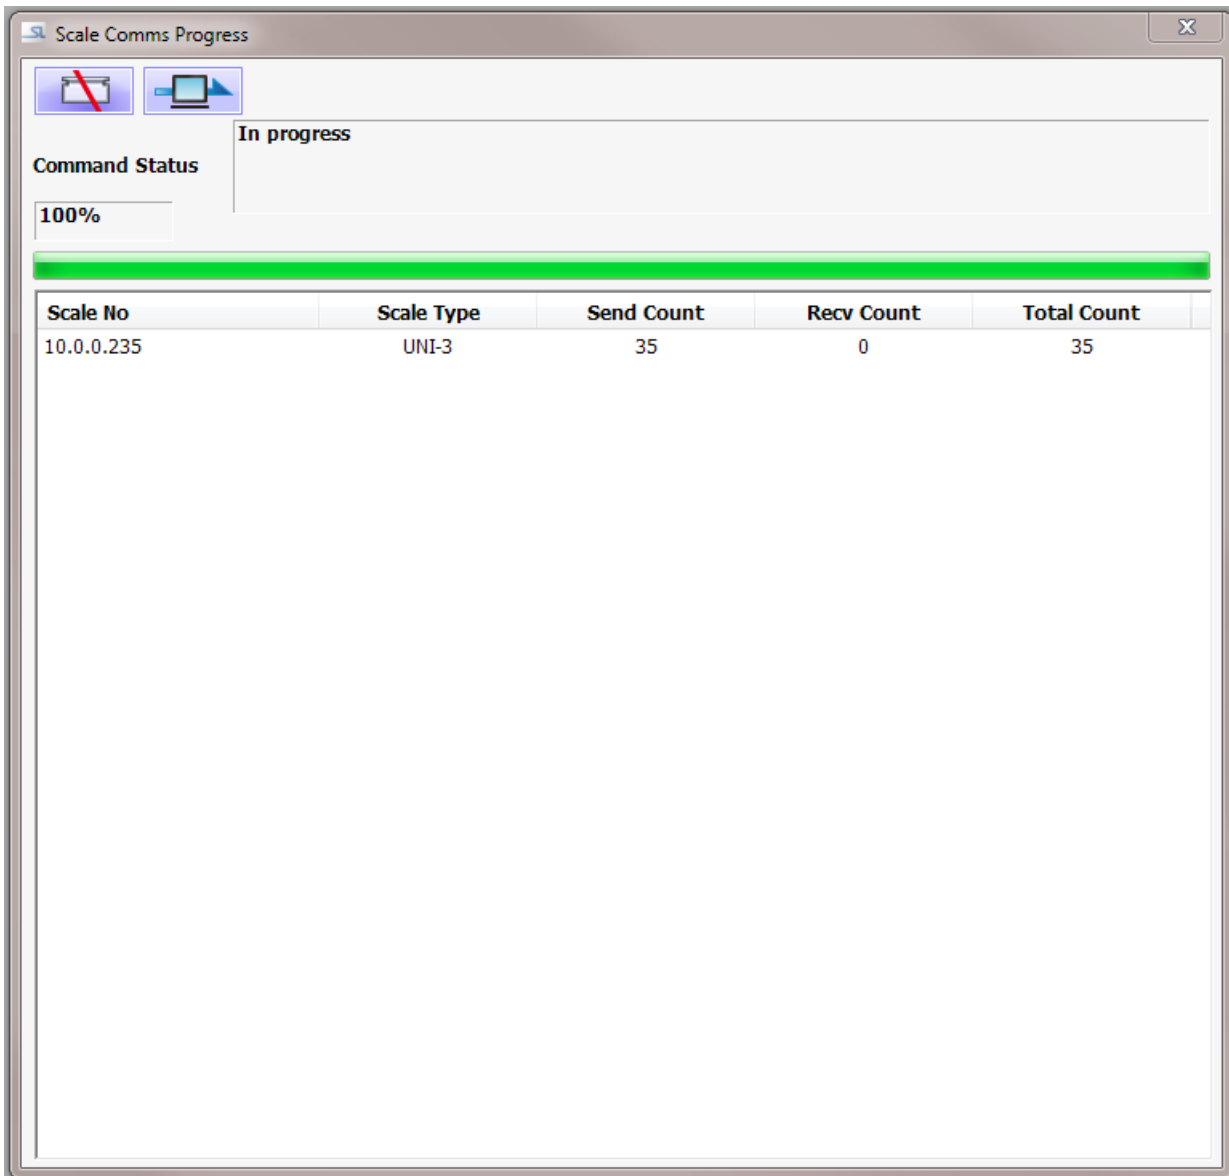

Figure 52-1
**Note:** The Scales Comms Progress window will open. Data will be updated to the scale and then the Scales Comms Progress window will close. See Figure 52-1.